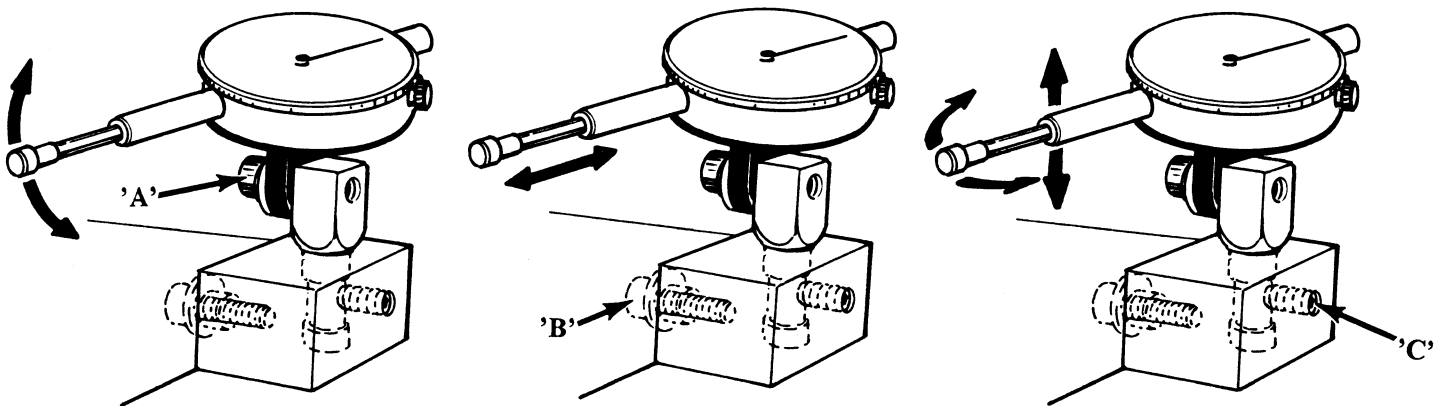

FIGURE 8
1. The gauge assembly is mounted to the setter in such a way as to provide four separate adjustments (See Figure 8). Loosening Bolt 'A' allows you to adjust the vertical angle of the indicator. Loosening Bolt 'B' will allow you to slide the gauge assembly forward and back. Loosening Set Screw 'C' will allow you to pivot the indicator horizontally and raise or lower the indicator. Adjustments of the gauge are explained in the following steps.